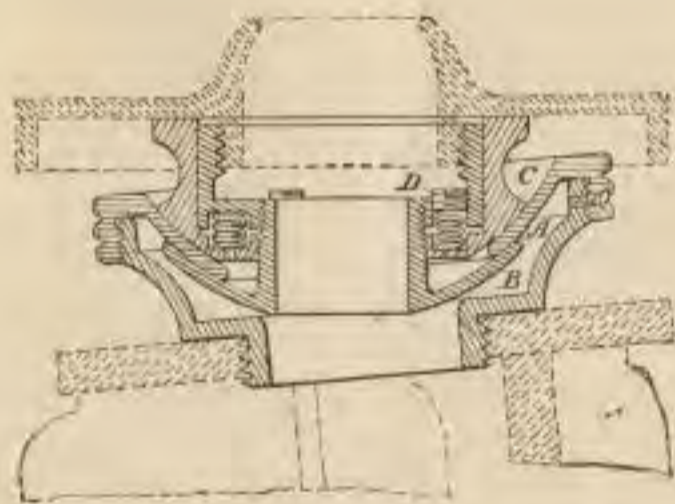

FIG. 65.
Fig. 65 shows the Quick Leveling Attachment designed for Level or Transit, as screwed fast to a Tripod.
**Prices.**—When furnished with a new instrument, \$5.00. For same, adapted to any instrument already in use, as in Fig. 65, \$6.00.
**N. B.**—When Fig. 65 is ordered for any instrument already in use, the lower plate of the leveling-head, as shown in outline of same figure, or the brass head of the tripod, the legs being removed, may be sent to us by mail or express, prepaid, with the remittance of—say \$7.00—to pay for attachment and return charges.
No. 85.—Quick-leveling tripod head, Fig. 65.....	6 00